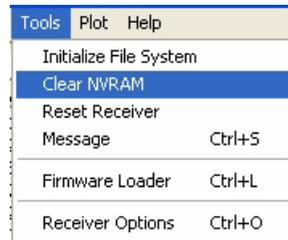

Figure 5-11. Clear NVRAM
3. Click the *Tools->Clear NVRAM* (Figure 5-11).